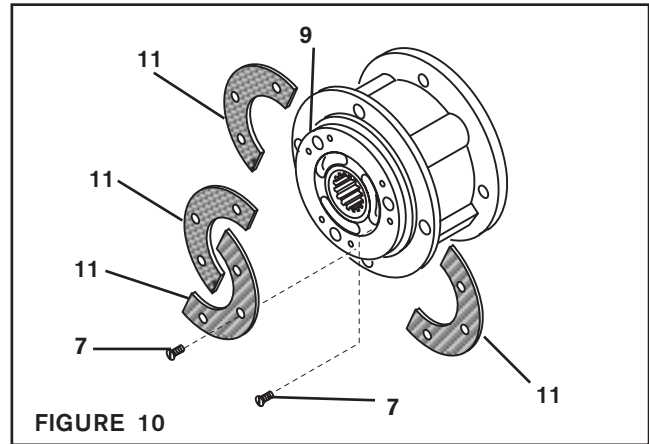

FIGURE 10
- Remove the six old Flat Head Machine Screws (Item 7) and the first old split Friction Facings (Item 11) (See Figure 10).
- Align the holes in the Splined Disc (Item 9) with the Flat Head Machine Screws (Item 7) that secure the second split Friction Facing (Item 11) (See Figure 10).
- Remove the six old Flat Head Machine Screws (Item 7) and the second old split Friction Facing (Item 11) (See Figure 10).
- Install the first new split Friction Facings (Item 11) and new Flat Head Screws (Item 7) (See Figure 10).
- Install the second new split Friction Facings (Item 11) and six new Flat Head Machine Screws (Item 7) (See Figure 10).